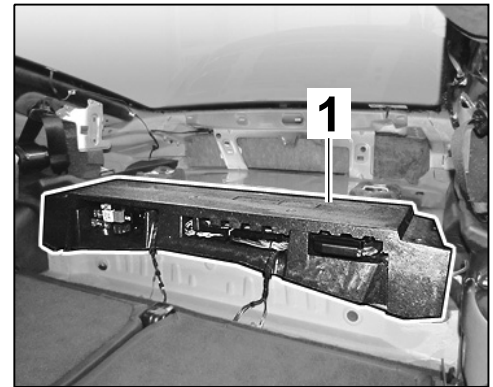

Figure 8
- 1.8.6 Remove moulded part ⇒ *Figure 8 -1-*.